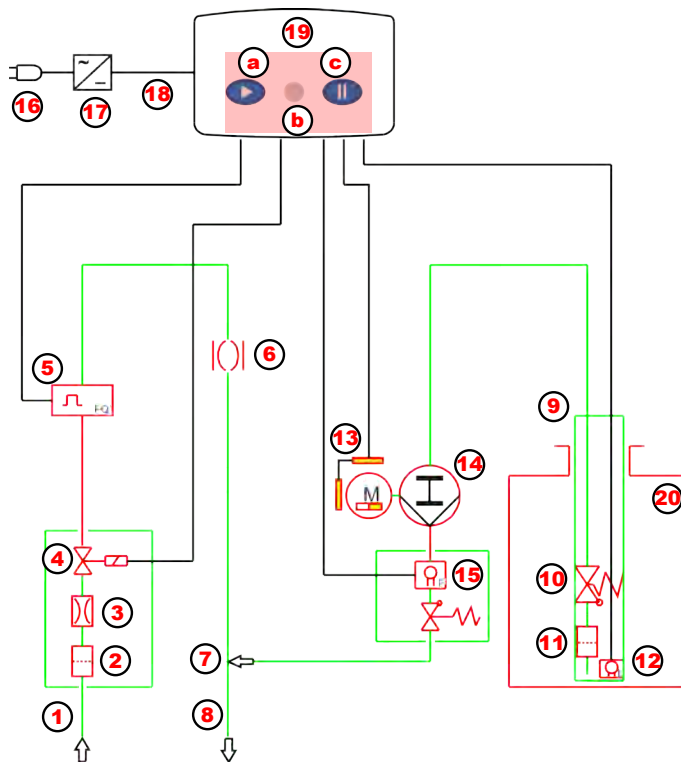

Fig. 1: Functional diagram
This error message must be acknowledged  before further dosing by pressing the stop (pause) button. At the same time, the dosing pump (Fig. 1, pos. 14) is activated, which sucks in disinfectant according to the set concentration from the product supply container (pos. 20).